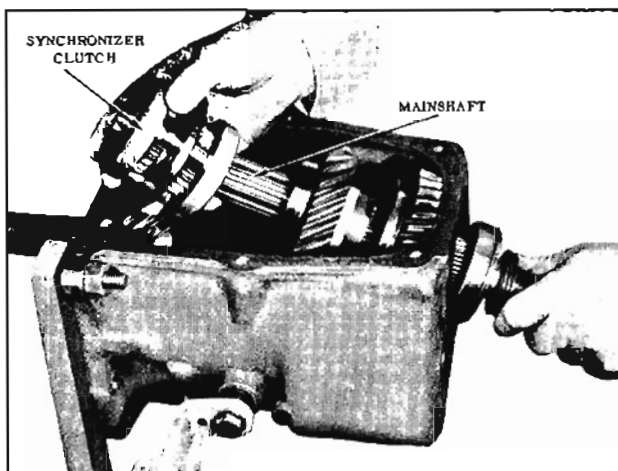

Fig. 7-9 Removing Synchronizing Clutch
6. Remove the synchronizing clutch from the main shaft. (Fig. 7-9)